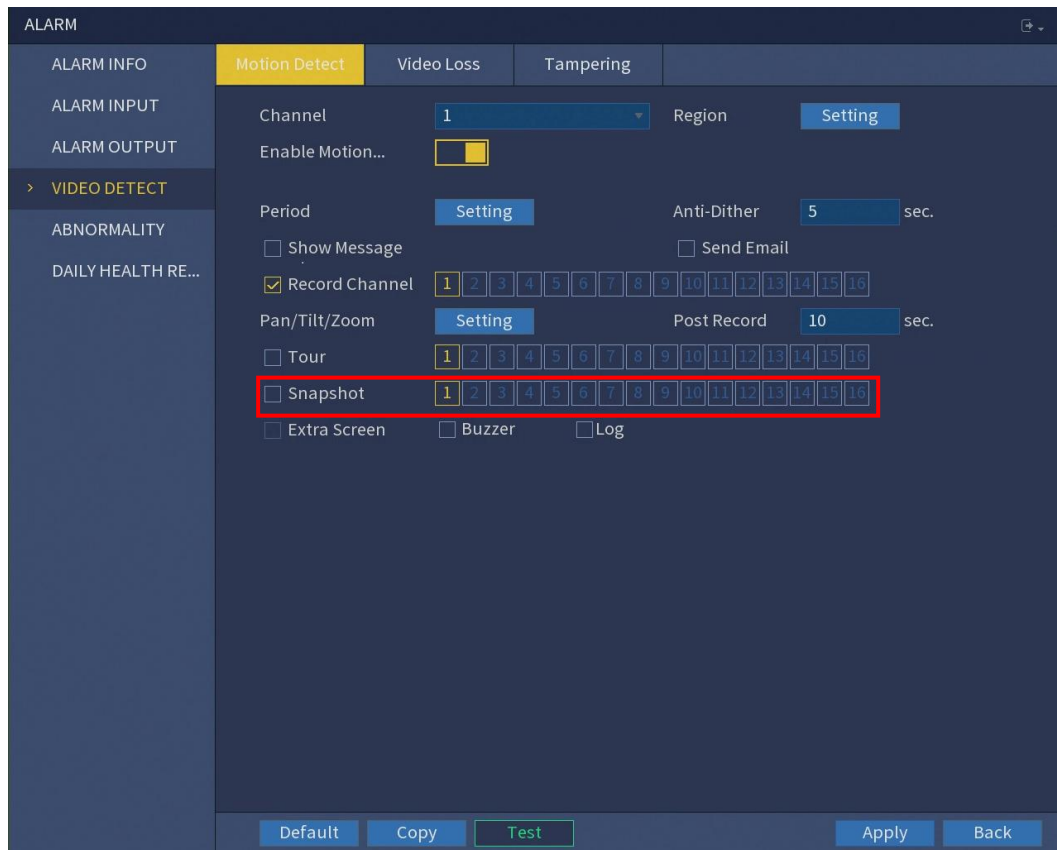

Figure 5-62
3. Select **MAIN MENU > ALARM > VIDEO DETECT**, and select the event type to configure for example, select the **Motion Detect** tab. See Figure 5-62.